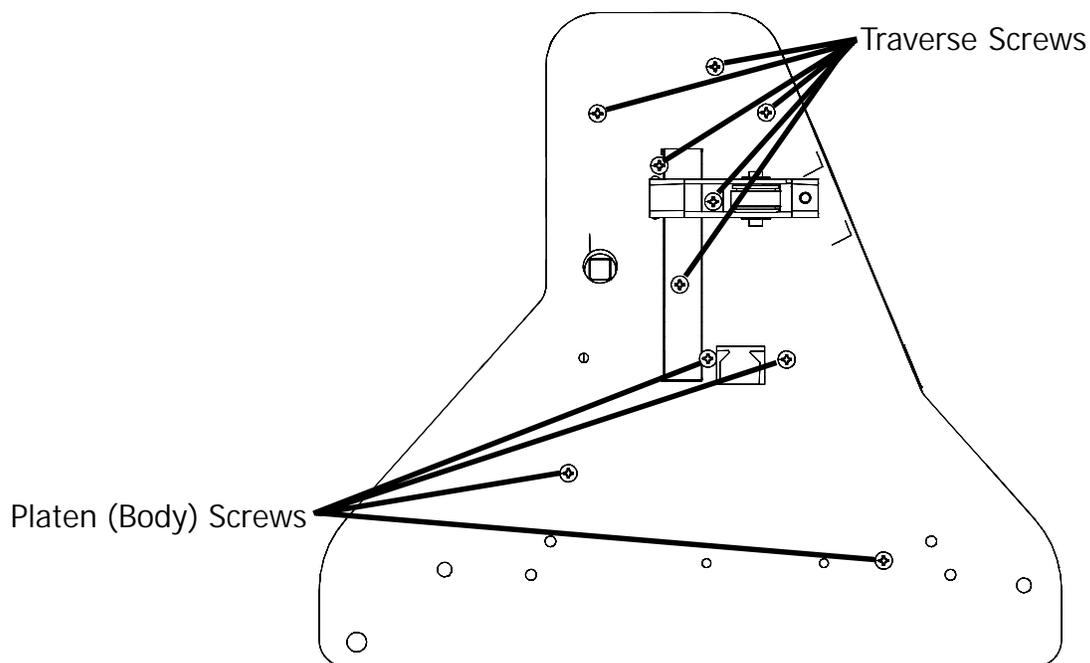

Fig. 16 - Left end plate
- 4) Remove the carriage cover unscrewing the two (2) phillips screws. One is on the bottom left side, and the other is on the front above where the pen is inserted.
- 8) Now it's time to start removing the left end plate of the machine. Start by taking out the screws that hold the body to the machine. *Remove all but one screw for the traverse, and one for the platen.* See Fig. 16